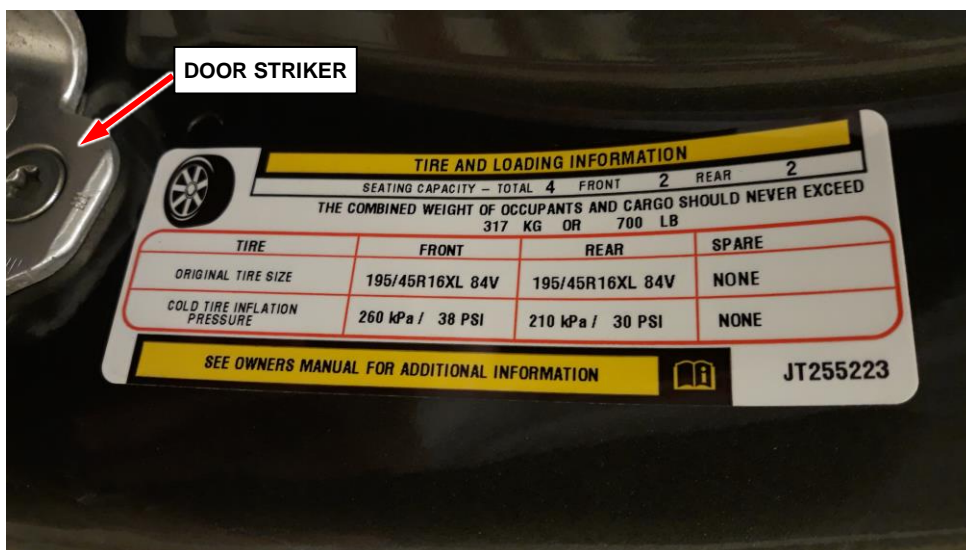

Figure 1 – Tire Inflation Pressure Label (Placard)
11. Open the driver’s door to locate the Tire Placard label near the door striker to obtain the front and rear tire inflation pressure information (Figure 1).
12. Select "**Continue**" and enter the placard pressure value as seen on the Tire Inflation Pressure (Placard) label (Figure 1).